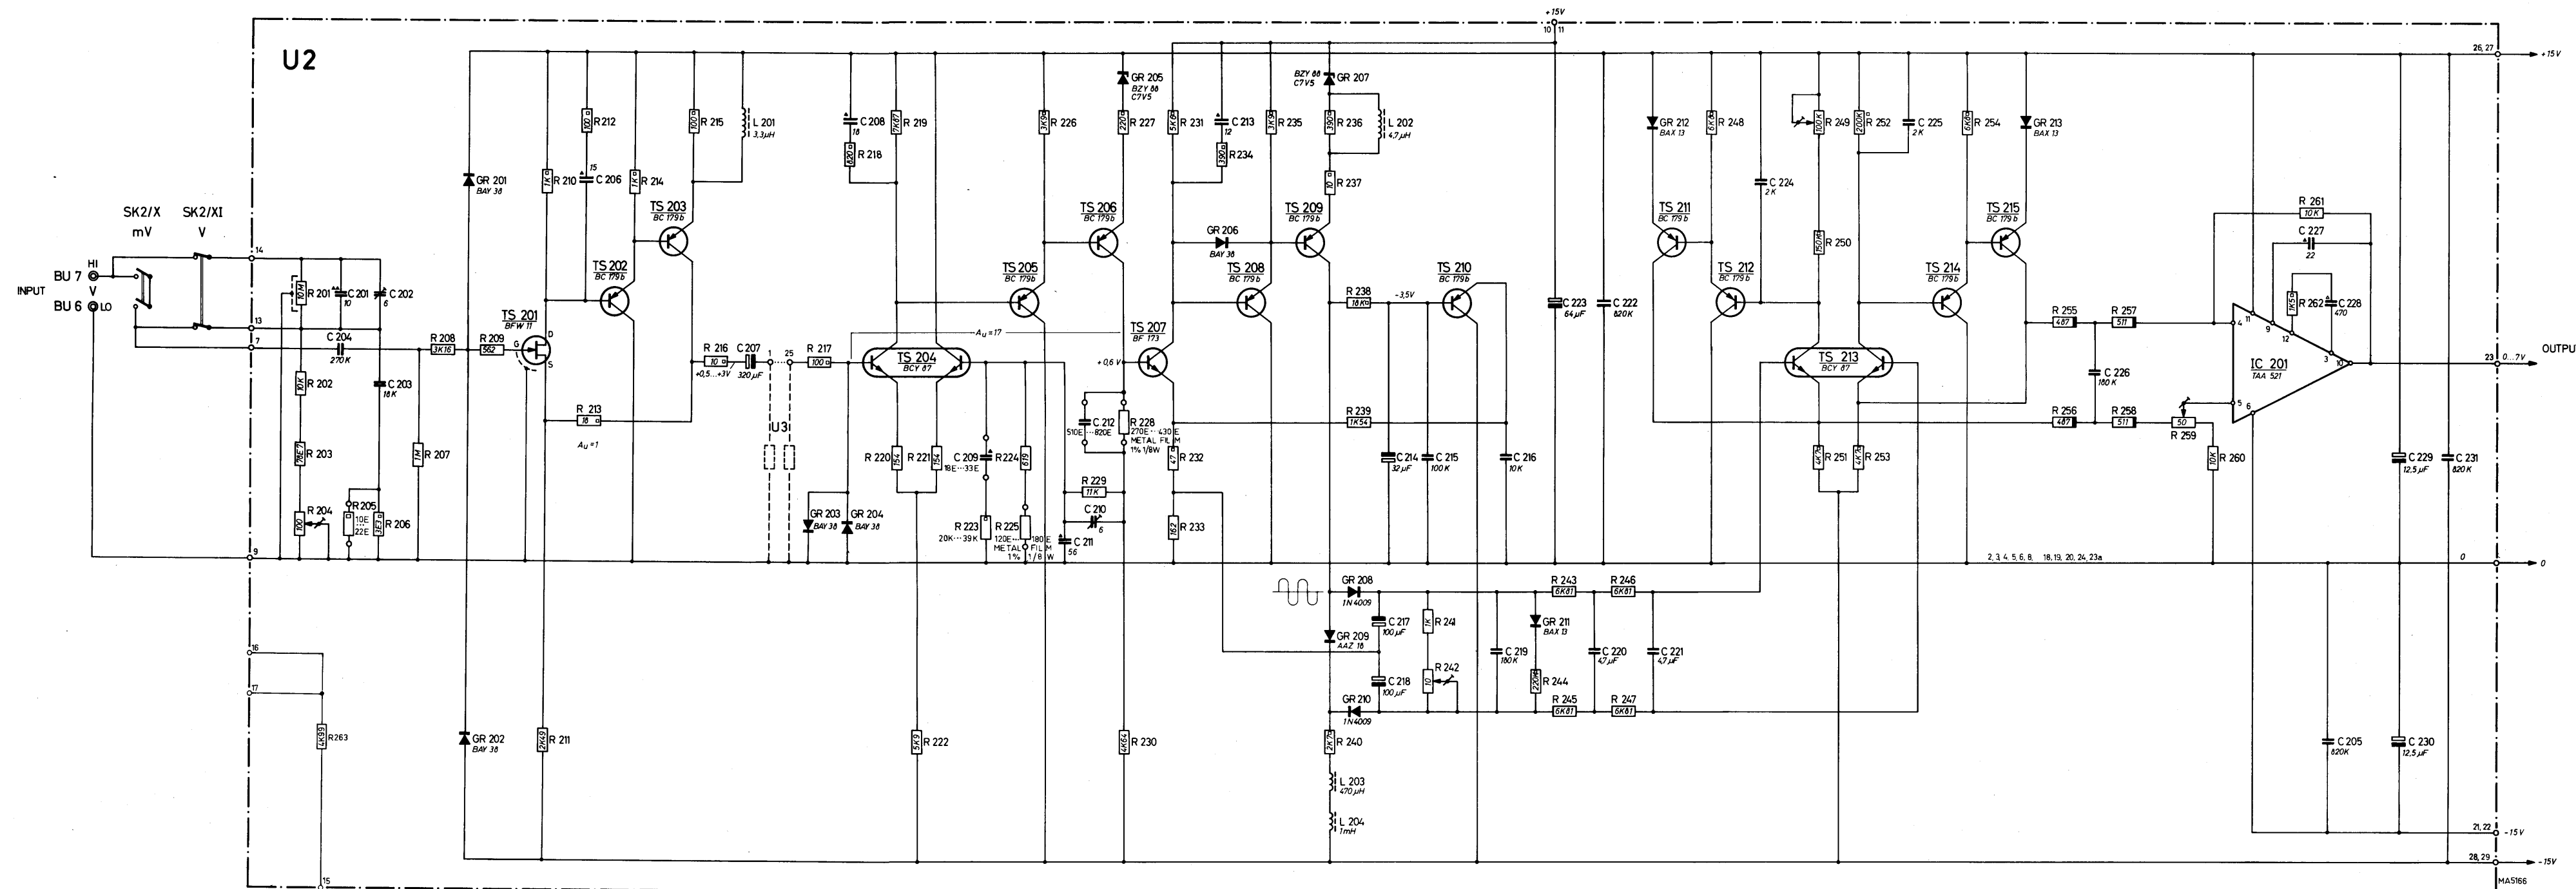

Fig. 21. Circuit diagram of the a.c. - to - d.c. converter
B. AC-TO-DC CONVERTER (U2), Fig. 21